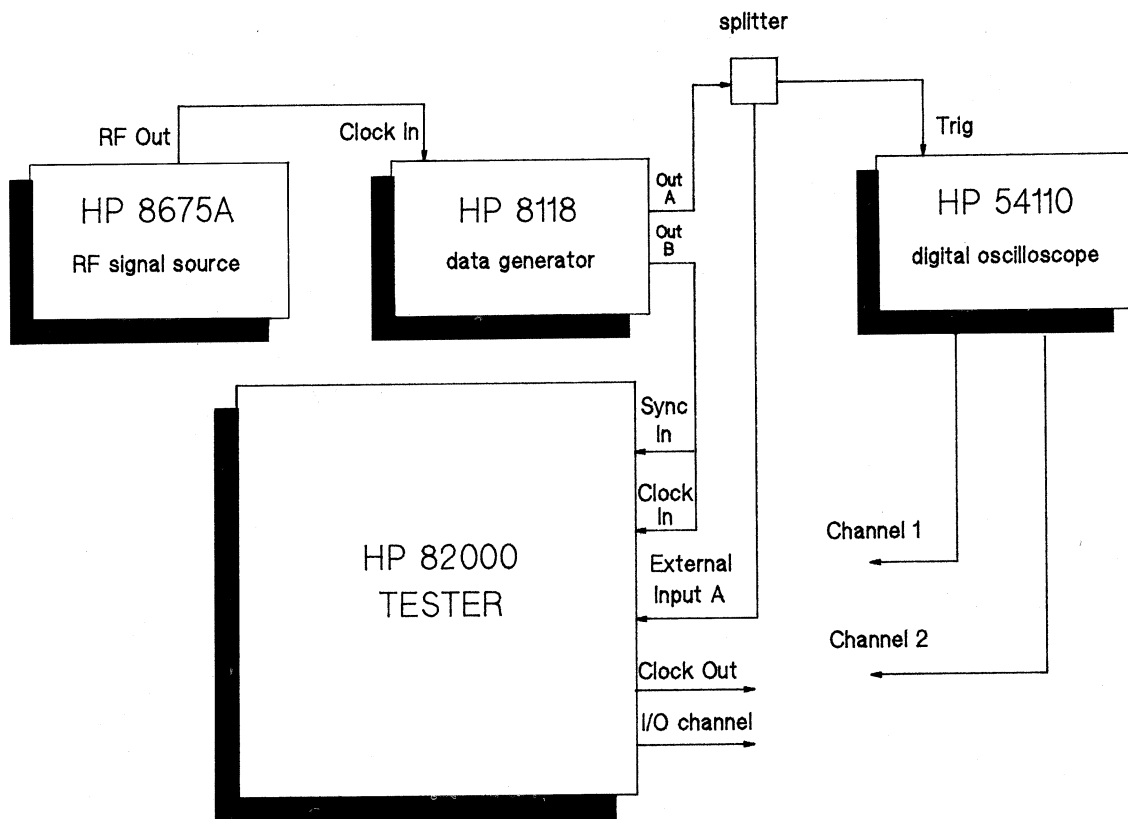

Figure 1-3.
1. Set up the HP 82000 with your signal source and oscilloscope as shown in Figure 1-3.